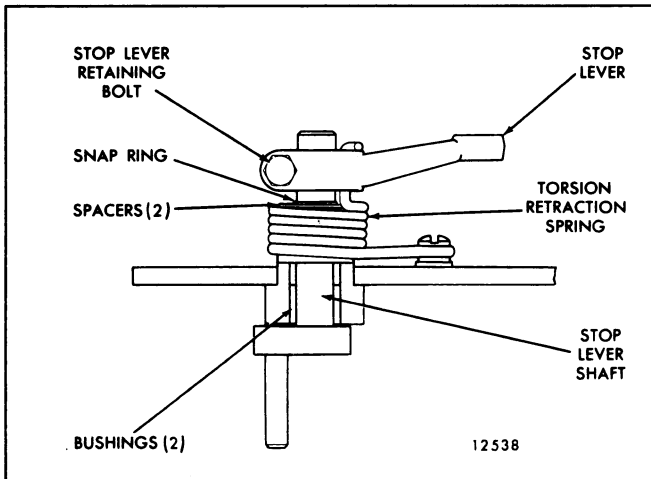

Fig. 4 - Cross Section of Governor Cover
1. Disassemble the governor cover assembly as follows (Fig. 4):